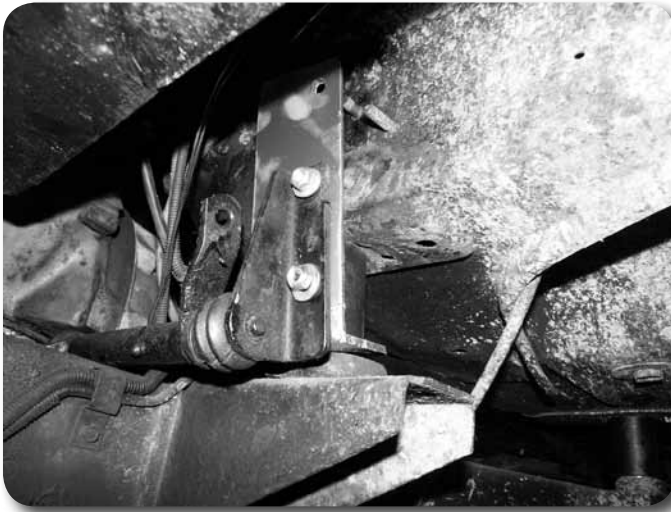

Figure 10
33. Install bracket as shown with factory nut at top mounting point – Fig 10.